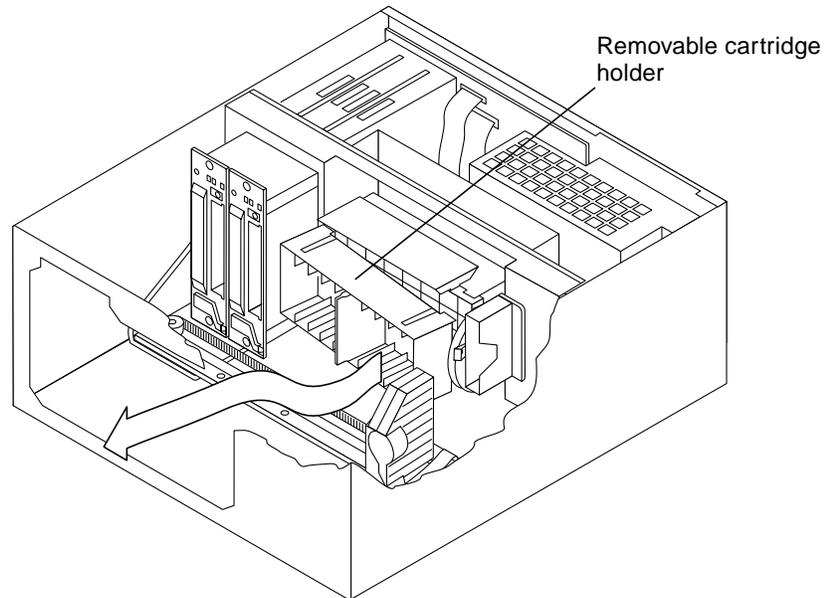

FIGURE 2-3 Removing the Cartridge Holder
6. Remove the tape cartridge holder by reaching in through the door and pulling the right-side of the removable tape cartridge holder towards you while lifting its left-end slightly (FIGURE 2-3).